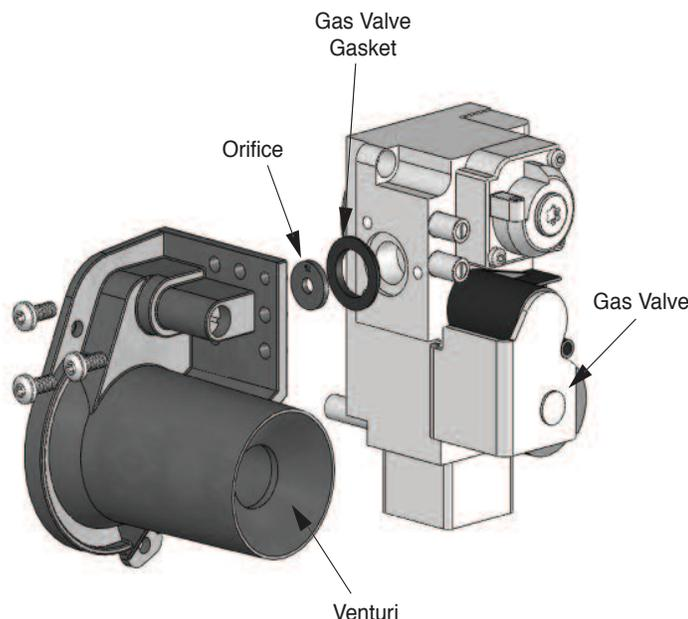

Fig. 2: Gas Valve / Venturi Assembly - PRESTIGE Solo 60/110/175/250
9. Reassemble the new gas valve, gas valve/orifice gasket and the three Torex screws from the kit and reassemble the gas valve to the venturi. See Fig. 2.